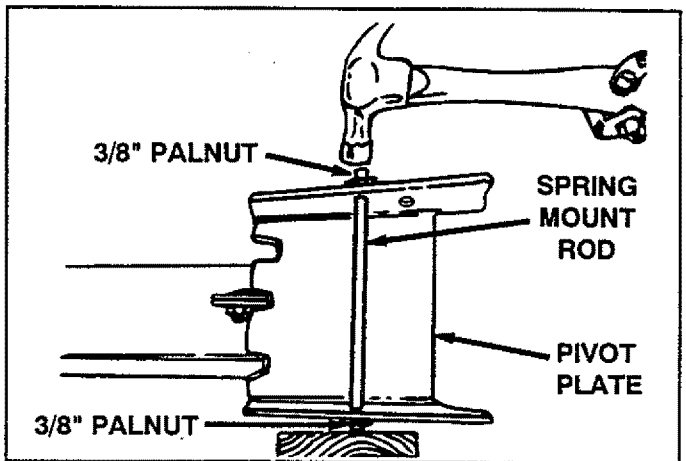

FIGURE 20 (Top View)
- Using a hammer, drive a 3/8" palnut onto one end of spring mount rod. Insert the other end of the spring mount rod through the rear holes on both sides of the pivot plate. Support end (with palnut) of the spring mount rod with a block of wood, and hammer on the remaining palnut. See figure 20.